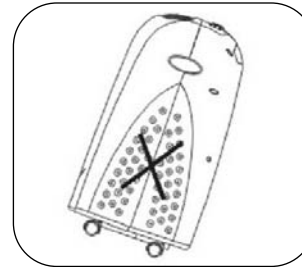

FIG.1
- Only use in the upright position on a flat, level surface at least 20"/50cm from any object (fig 1 & 4).